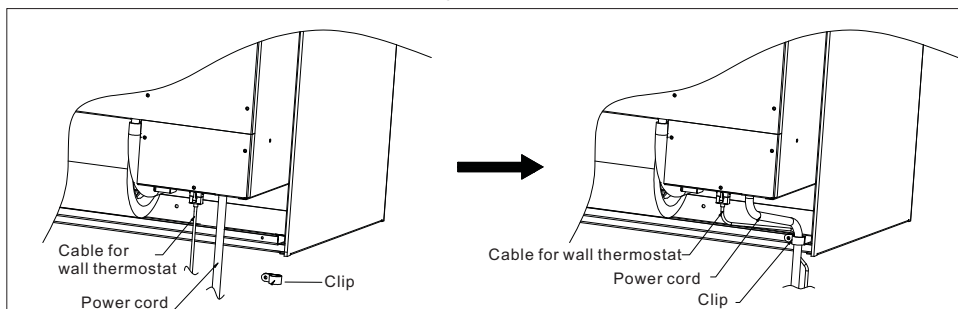

Fig.05 CLAMP POWER CORD AND CABLE
3. Use wire clamp to attach power cord and cable for wall thermostat to base pan, See Fig.05.
Use wire clamp to attach power cord and cable for wall thermostat to base pan, see Fig.05